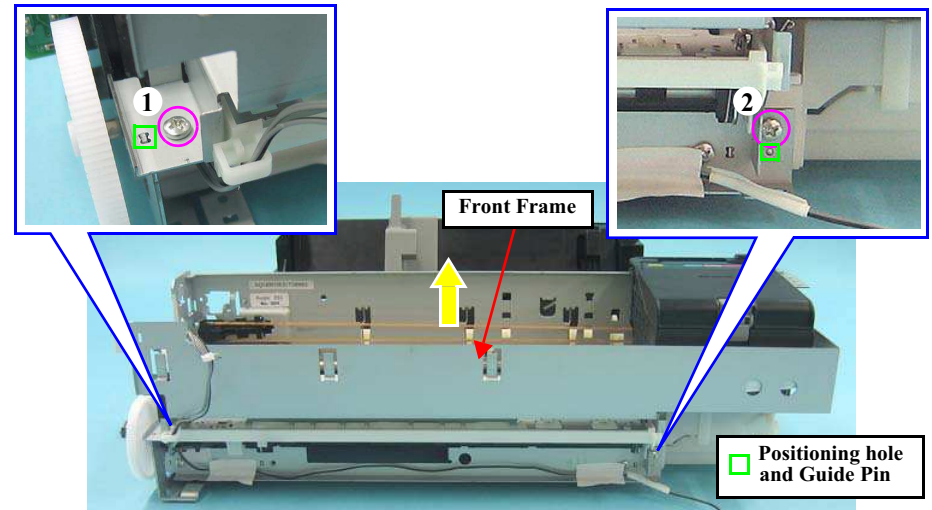

Figure 4-75. Removing the Front Frame
- When installing the Front Frame, match the positioning holes of the Front Frame with the guide pins of the Main Frame (two pairs), and tighten the screws in the order given in Fig.4-75 \(p.81\).